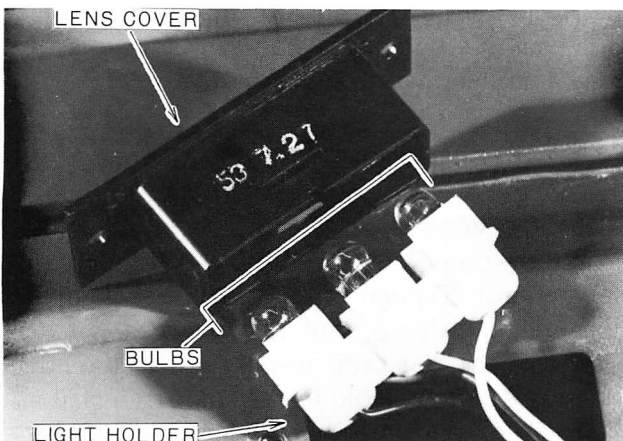

Figure 59 — Instrument Panel Lights
1. Remove the two screws securing the instrument panel lens cover to the instrument panel and pull the light holder up out of the instrument panel (Figure 59).